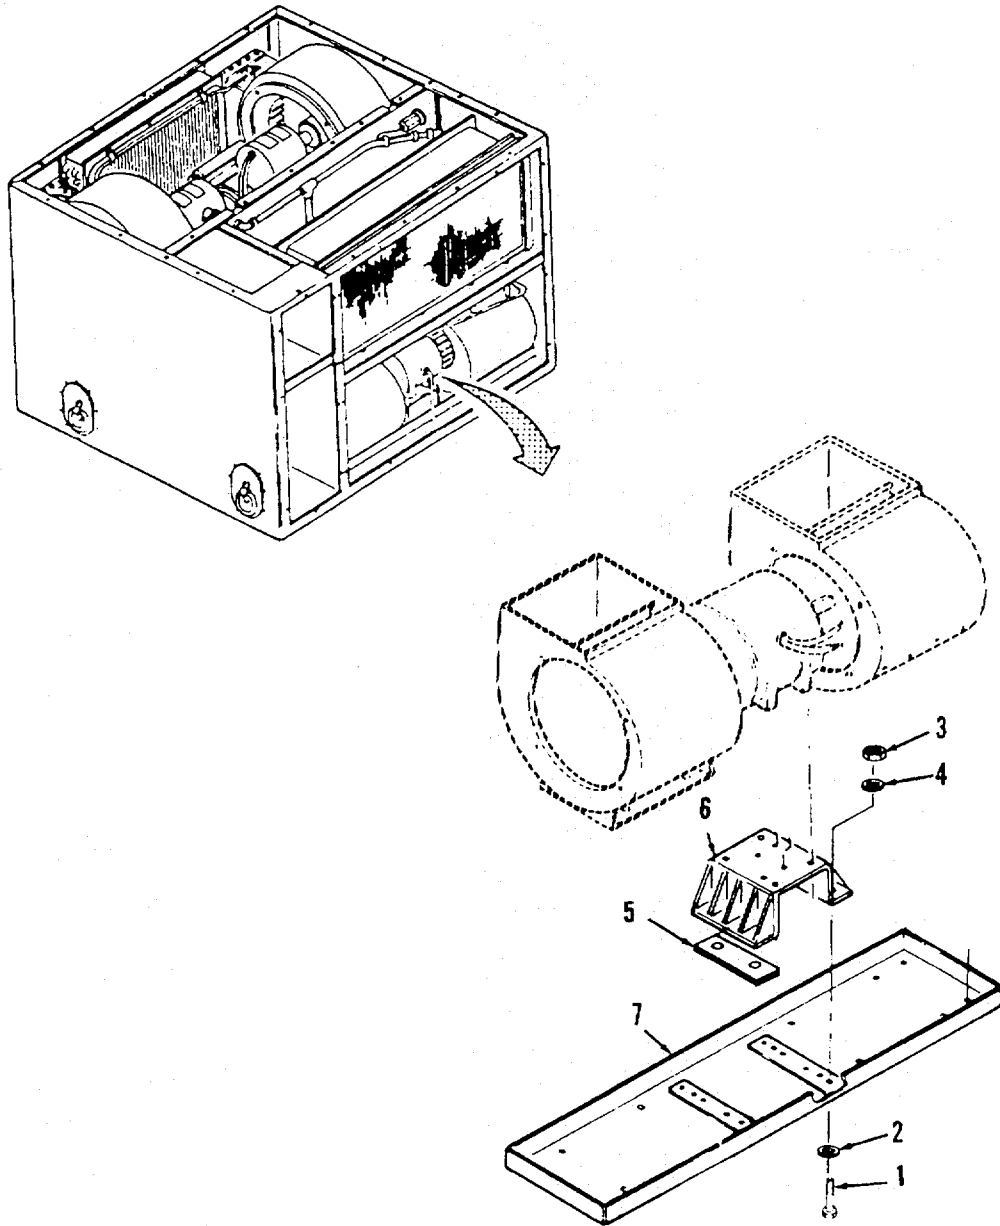

Figure 4-7. Evaporator Motor Bracket and Chassis.
**a. Removal.** (Refer to Figure 4-7).
- (1) Remove four screws (1), four flat washers (2), four nuts (3), four flat washers (4), and two spacers (5).
- (2) Remove evaporator motor bracket (6) from chassis (7).